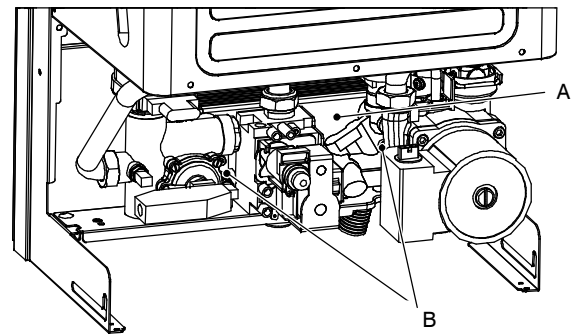

Fig. 16
The d.h.w heat exchanger A in Fig. 14 and Fig. 16 allows the instantaneous transfer of heat from the primary hydraulic circuit to the water destined for d.h.w use.
- 3 Completely unscrew the two Allen key screws B (Fig. 16) which hold the exchanger to the brass groups.